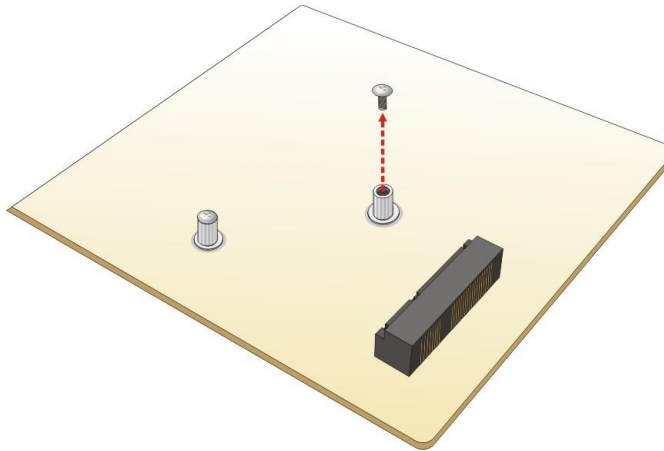

Figure 4-11: Removing Retention Screw
Step 2: Remove the retention screw. See Figure 4-11.